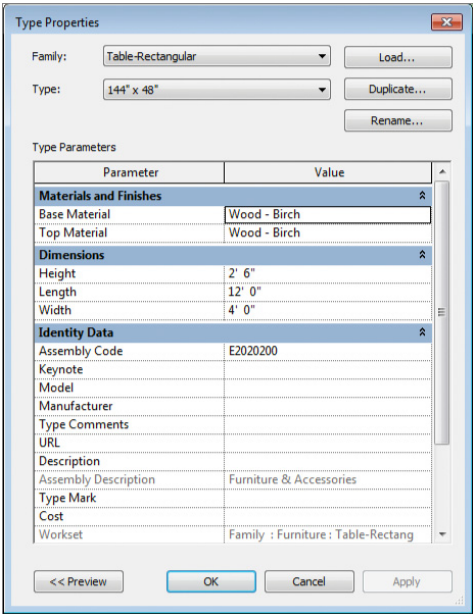

FIGURE 10.19 Modifying the type parameters
4. Modify the dimensional parameters as shown in Figure 10.19, changing the Height, Length, and Width values. Doing so creates a significantly larger table for use in your conference rooms. Click OK to finish editing the family.